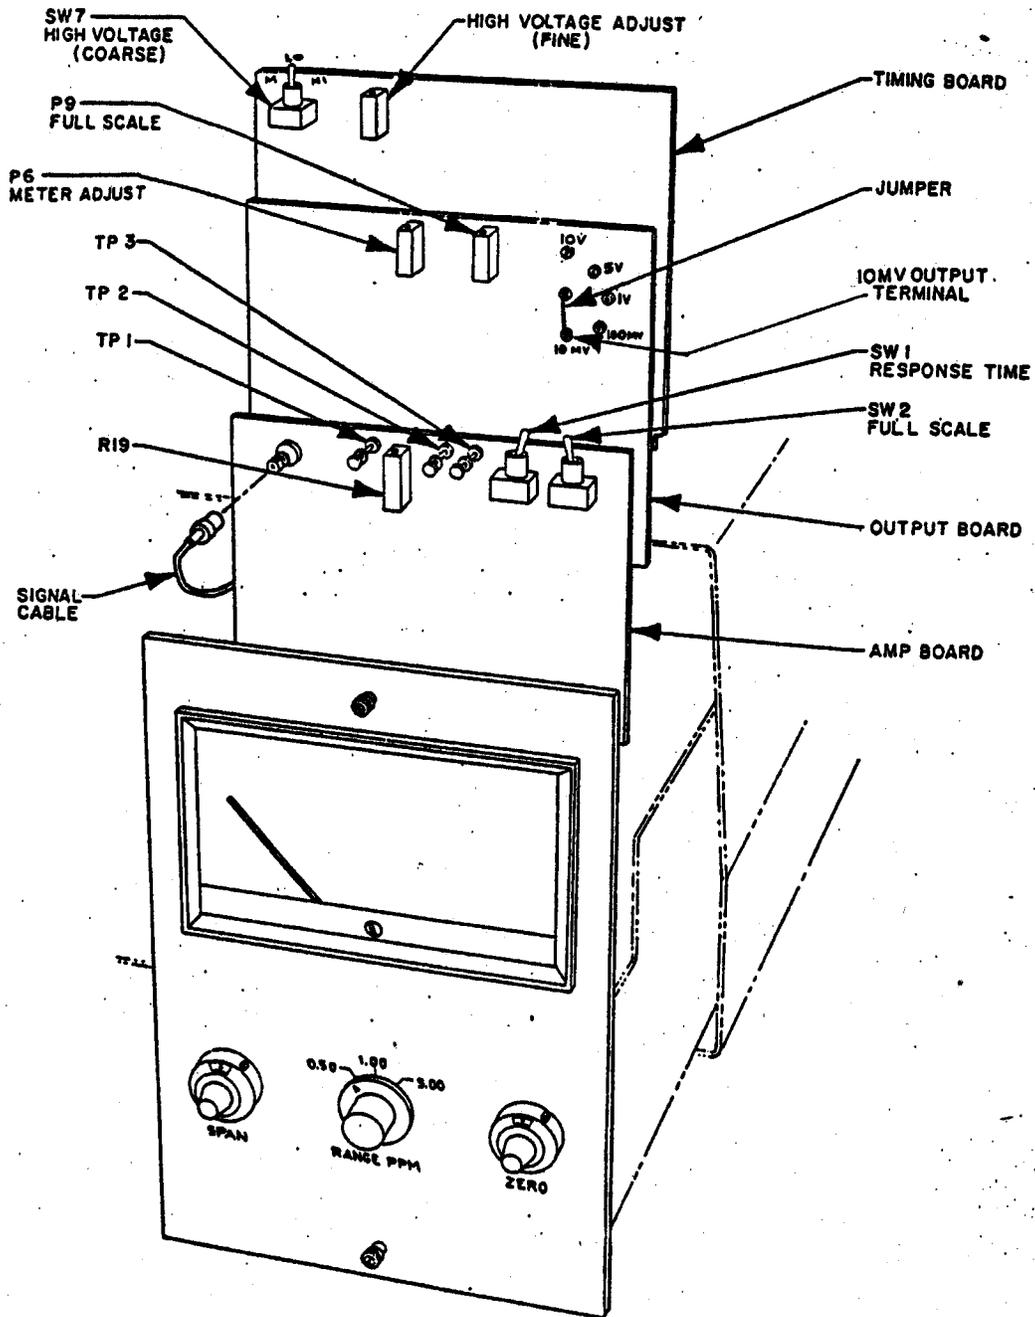

Figure C.1.2.1
1. Amplifier PC Board - Slide the electronic section forward to expose the printed circuit boards (see Figure C.1.2.1.). Locate the following components on the amplifier board: R19 full-scale pot and SW2 calibrate toggle switch. Make adjustments as follows: